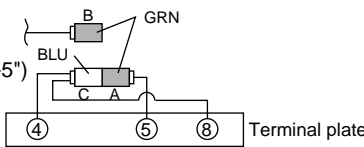

Fig.9-1
- 9-1-1. Confirm mains power is switched OFF, then disconnect the connectors (GRN/GRN) to separate A and B. Then connect A connector (GRN) with connector C (BLU). (Fig.9-1)